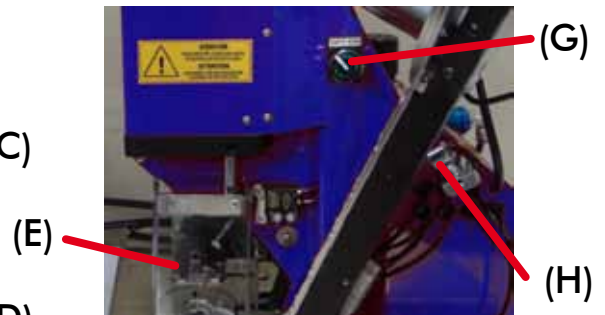

Fig 2
- The machine has an ON/OFF switch (G), (see Fig. 2). When the machine is not in use, it should be on OFF position, (no lighting on the switch) to avoid accidents when used by a third party. We also suggest unplugging the electrical cord from the socket for safety reasons.